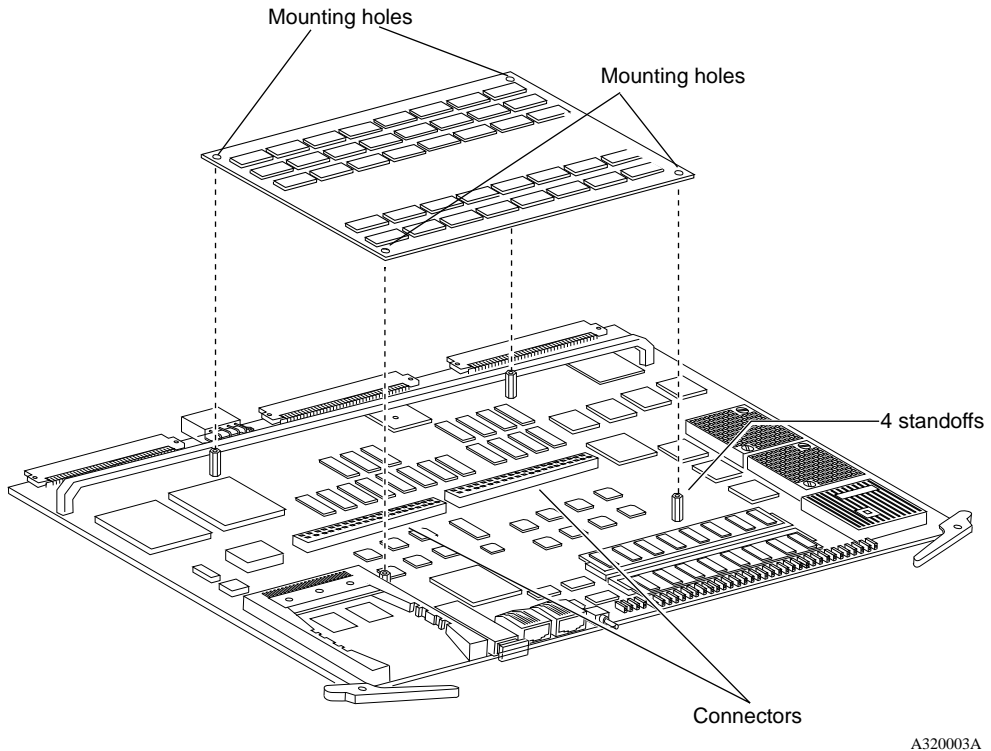

Figure 2. Aligning the VBM Module
1. **Align the two connectors on the VBM module with the connectors on the ARE processor module (Figure 2). Also, align the mounting holes on the VBM module with the standoffs on the ARE processor module. Then press the upgrade module into place.**